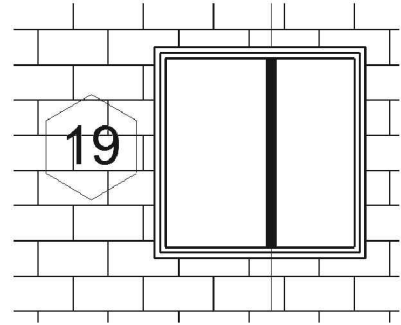

FIGURE 10-1.14
28. Zoom in on the new window and notice the structural column that is clearly visible (Figure 10-1.14).